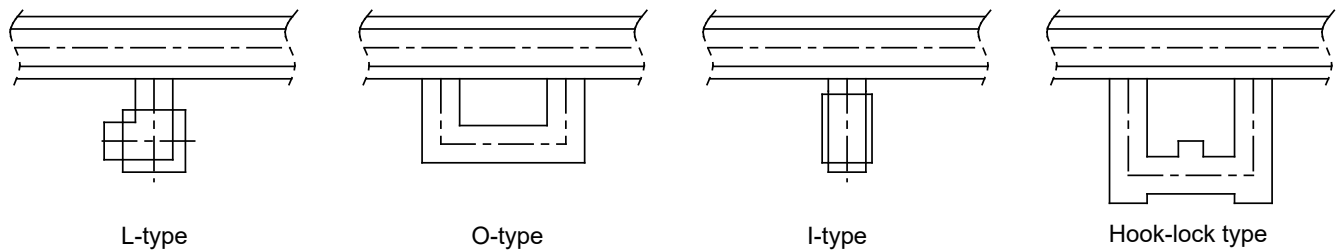

Fig. 1 Type of Gasket-Fixing Protrusions
- There are four type of protrusions depending on each PHE model (Fig.1).